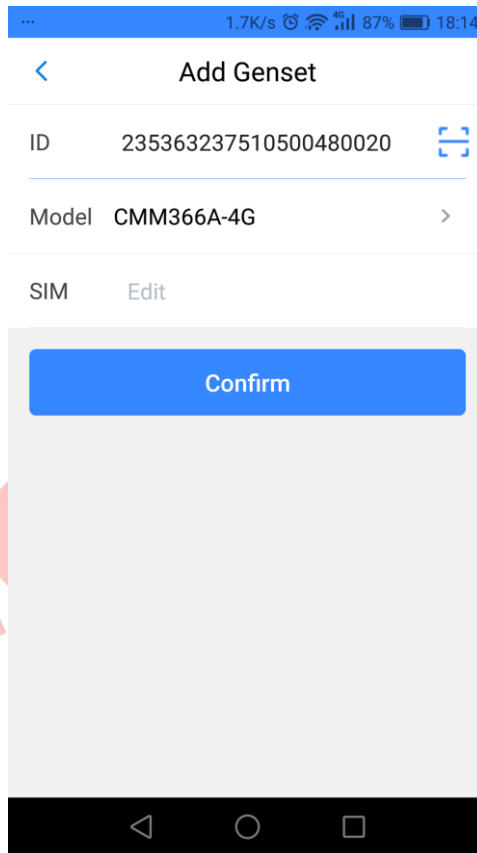

Fig. 18 - Add Genset Interface Screenshot
- 3) Open "tesilayun" APP from the mobile, choose "Add Genset" interface, scan the QR code on the Modem and add Modem ID, or manually input Modem ID (as Fig. 12's Module ID), choose Modem type, click Confirm, and it is OK as Fig. 18.